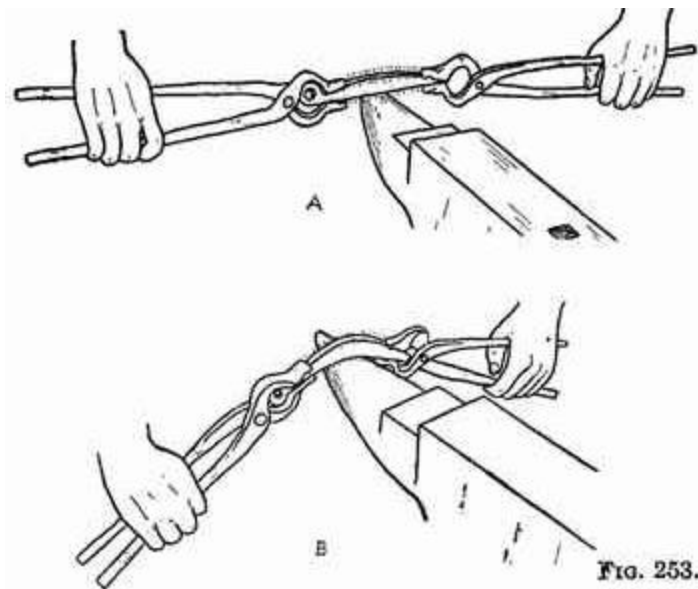
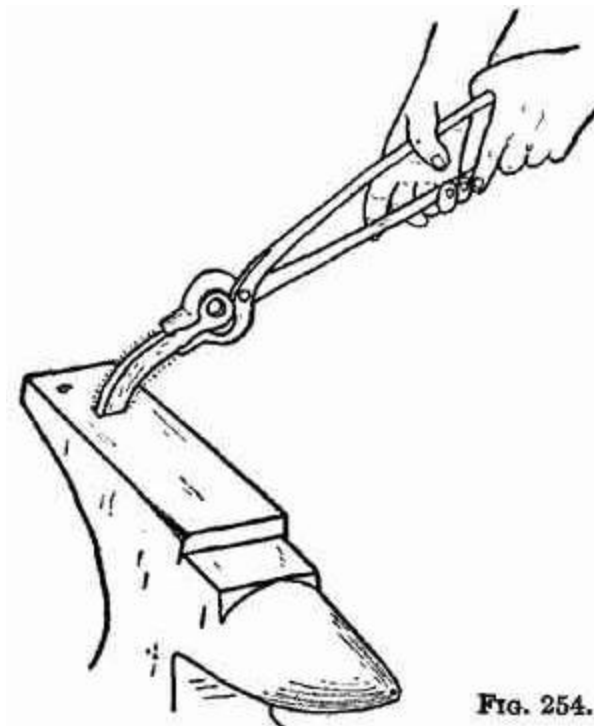

Fig. 253.-Flat iron may be bent edgewise by heating to nearly a white heat and bending slowly with tongs. This method is good in making flat chain hooks.
Fig. 254.-Bending of heavy pieces can sometimes be best accomplished in the hardy hole.
**Bending Flat Bars Edgeways.**-A flat bar can usually be easily bent edgeways by heating and placing over the horn and bending the two ends down slowly, using the hands if the piece is long enough, or two pairs of tongs in the case of short pieces (see Fig. 253). Sometimes the bending can be done easily by putting one end of the piece in the hardy hole and pulling on the other end (see Fig. 254). If the stock starts to buckle, it should be laid flat on the anvil and straightened. Hammering the outside edge of the iron when laid flat will tend to stretch it and therefore help with the beading. Once the bend is well started, hammering the piece on edge around the horn is not so difficult. The stock should always be firmly held, either by hands or with tongs, and the parts to be bent should be at a high red heat. Places not to be bent should be comparatively cold.